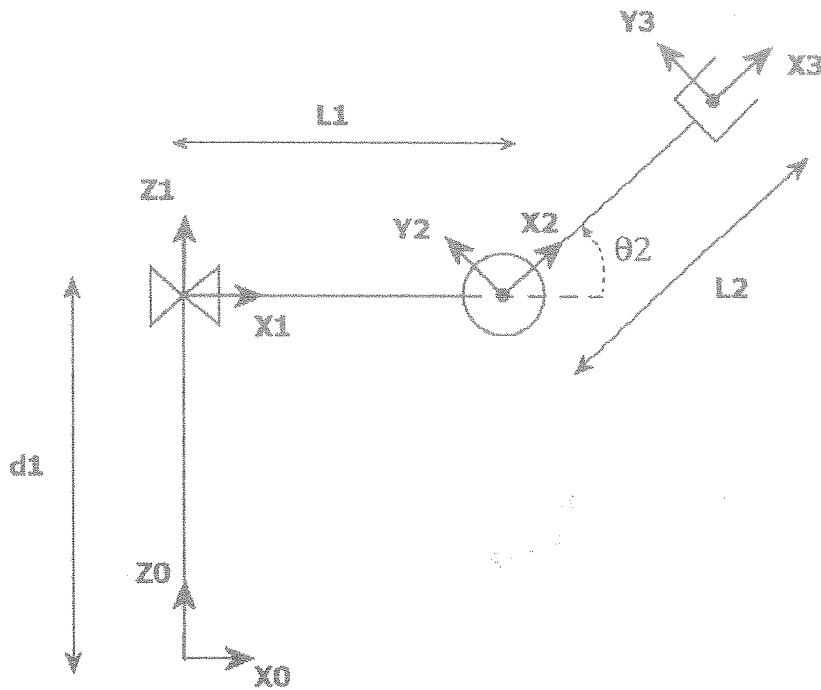

Figure Q4: PR robot manipulator
- Q4. By referring the serial PR robot manipulator shown in Figure Q4, answer to following questions.